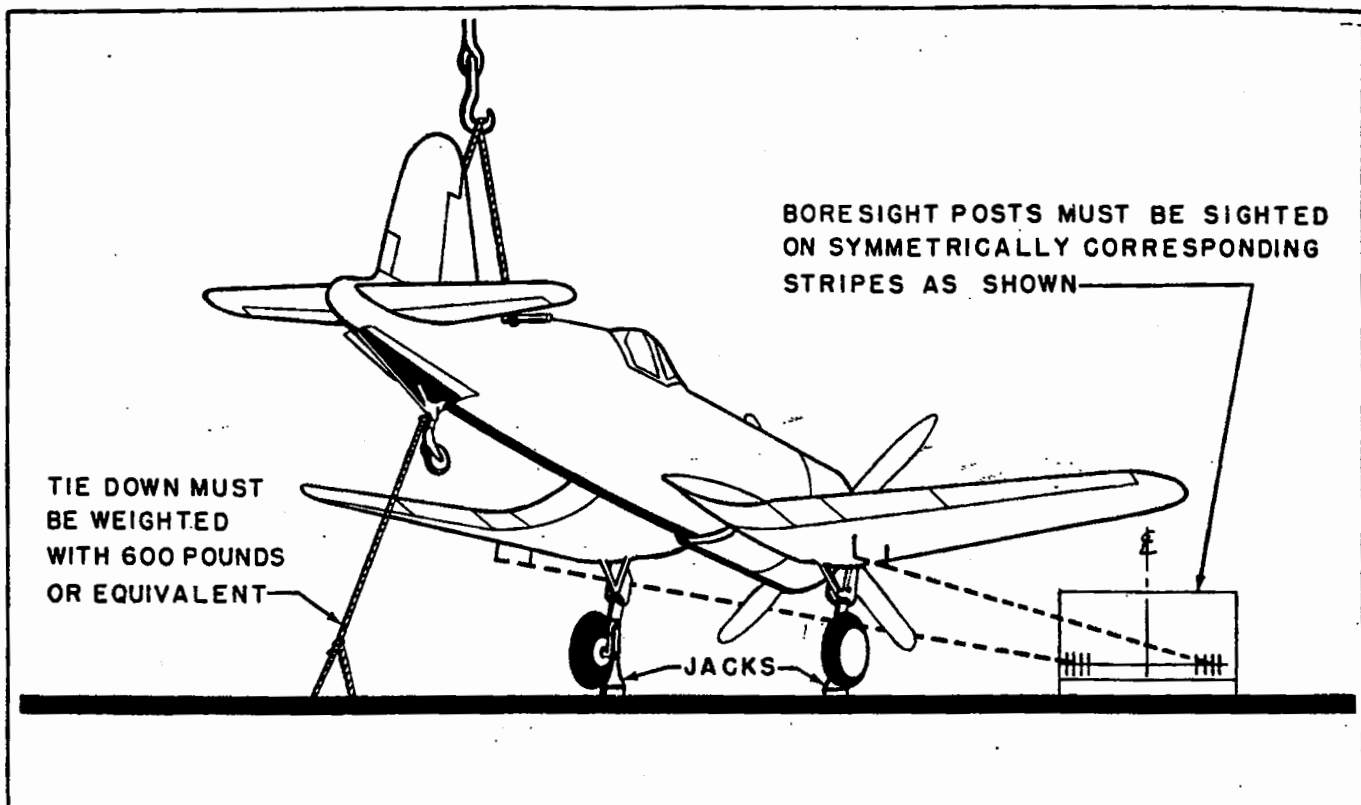

Figure 4-156. Boresight Posts Properly Sighted on Target Screen.
d. Sight through both sets of posts simultaneously and shift target screen until both sets of posts sight onto horizontal datum line on symmetrically corresponding vertical stripes located at the ends of horizontal datum line. Posts will then sight on horizontal datum line equidistant from vertical centerline on target screen. The airplane is now properly oriented to the target screen, and guns, gunsight, and camera may be aligned to their respective target spots; see figure 4-156.